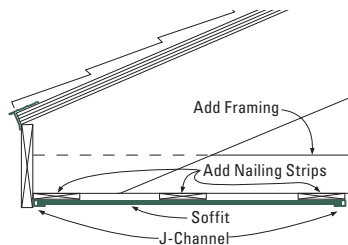

Figure 4
**Note:** Recommended nailing for soffit panels is 16" on center, however, if the eave span is over 18", nailing strips must be installed (Figure 4). In areas with high wind restrictions, nailing should not exceed 12" on center.